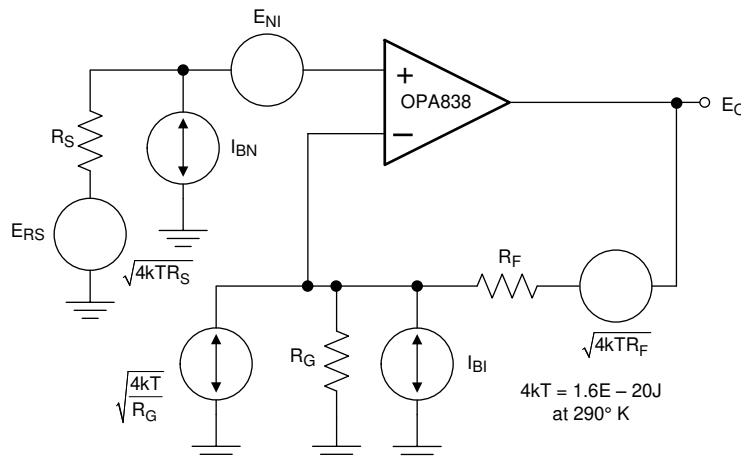
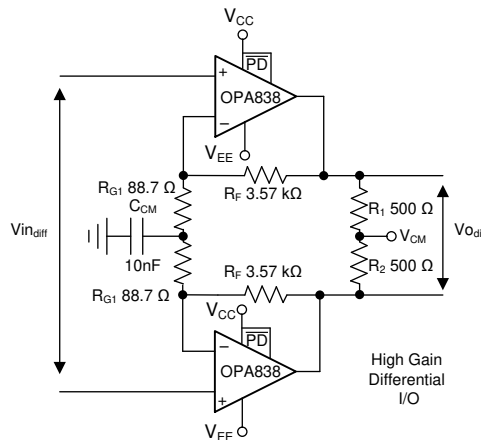
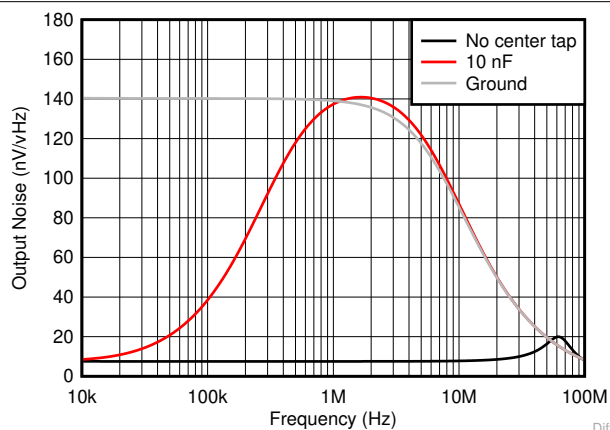

Figure 9-3. Op-Amp Noise-Analysis Model
Figure 9-4. High-Gain Differential I/O Stage
Figure 9-5. Common-Mode Output Noise for Differential I/O Design
The decompensated voltage feedback of the OPA838 op amp offers among the lowest input voltage and current noise terms for any device with a supply current less than 1 mA. Figure 9-3 shows the op amp noise analysis model that includes all noise terms. In this model, all the noise terms are shown as noise voltage or current density terms in nV/ $\sqrt{\text{Hz}}$ or pA/ $\sqrt{\text{Hz}}$.
The total output spot noise voltage is computed as the square root of the squared contributing terms to the output noise voltage. This computation is adding all the contributing noise powers at the output by superposition, then taking the square root to return to a spot noise voltage. Equation 3 shows the general form for this output noise voltage using the terms presented in Figure 9-3.
A high-gain differential-to-differential I/O circuit can be used to drive a second-stage FDA or a differential-to-single-ended stage. This circuit is frequently used in applications where high input impedance is required (for example, if the source cannot be loaded). Figure 9-3 illustrates an example design where the differential gain is 41 V/V. An added element between the two R_G resistors increases the noise gain for the common-mode feedback. Make sure to provision for the added element; otherwise, a decompensated VFA (such as the OPA838) often oscillates. With only the R_G elements in the differential I/O design, the common-mode feedback is unity-gain and often causes high-frequency, common-mode oscillations. To resolve this issue, split the R_G elements in half and add a low-impedance path, such as a capacitor or a DC reference, between the two R_G values.
As an example design, start with the circuit in Figure 9-4.
- Assess the DC common-mode biasing on the noninverting inputs. The DC biasing must be in range and have a gain of 1 to the output. This is not illustrated in Figure 9-3.
- If a DC reference is used as the mid- R_G bias, setting the reference equal to the noninverting input bias voltage sets the output common-mode to that voltage. Using a capacitor as illustrated in Figure 9-3 accomplishes the same results.
- Set the total R_G value near the high gain values using Table 9-1. This 178- Ω total must be split for a center tap to increase the common-mode noise gain, as shown by the 88.7- Ω value in Figure 9-4.
- Simulate the common-mode noise with different elements on the R_G center tap as shown in Figure 9-5. Decide which is most appropriate to the application.
The common-mode loop instability without the R_G center tap is not often apparent in the closed-loop differential simulations. The common-mode loop instability without the R_G center tap can often be detected in a common-mode output-noise simulation as Figure 9-5 shows. Grounding the inputs Figure 9-4 and running an output-noise simulation for the common-mode tap point in Figure 9-3 shows a peaking in the noise at high frequency. This peaking indicates low-phase margin for the common-mode loop. Figure 9-5 shows this peaking in the lowest noise curve, with two options for improving phase margin. The first option used in Figure 9-4 is a capacitor to ground set to increase the common-mode noise gain only at higher frequencies. This increase can be seen by the peaking in the common-mode noise of Figure 9-5. Another alternative is to provide a dc voltage reference on the R_G center tap. This method raises the common-mode noise gain from dc and beyond. Neither of these latter two options show any evidence of low phase-margin peaking. These two options do increase the output common-mode noise significantly at lower frequencies. Typically, an increase in output common-mode noise is more acceptable than low-phase margin because the next stage (FDA, ADC, differential to single stage) rejects common-mode noise.